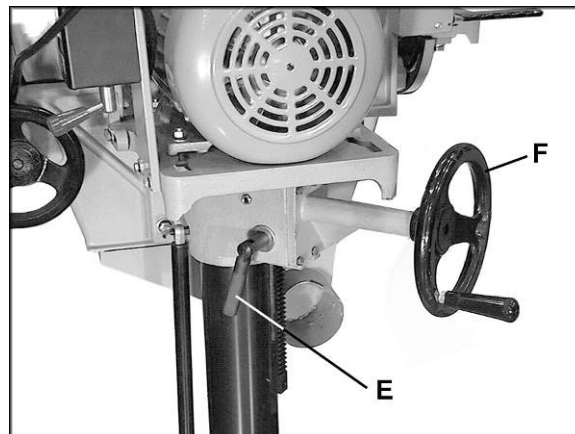

Figure 6
1. Loosen the lock handle (E, Figure 6) and adjust the table height by rotating the handwheel (F, Figure 6); clockwise to lower the table, counterclockwise to raise it.
2. When finished, re-tighten lock handle (E, Figure 6).